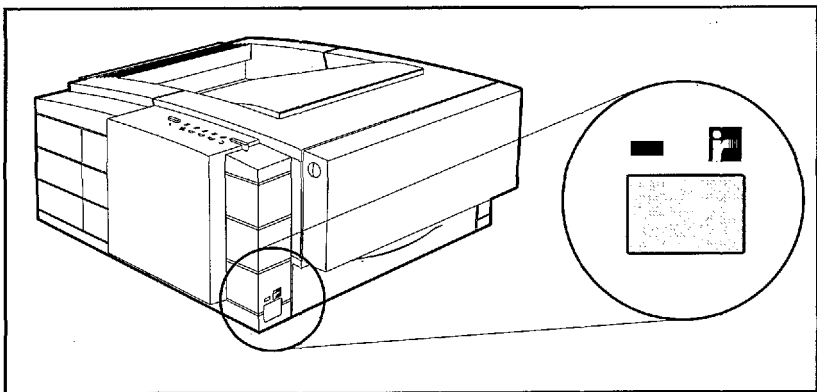
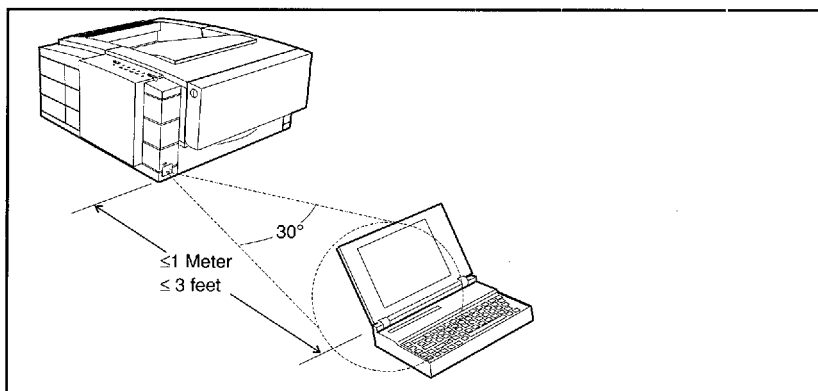

Figure 8 IrDA Port Location
Figure 9 IRDA Port ranges
The infrared (IR) port on your HP LaserJet 5P or 5MP printer is located on the lower front left corner of the printer (Figure 8). This port is compliant with the specifications determined by the Infrared Data Association (IrDA). Just above the port is a status light that indicates when the port is activated. To use the IR port, you need to use a portable device that also includes an IrDA-compliant IR port and be within the range of operation (see Figure 9).
(1 m) of the IR port on the printer and at an angle of ± 15 degrees to ensure printing (Figure 9).